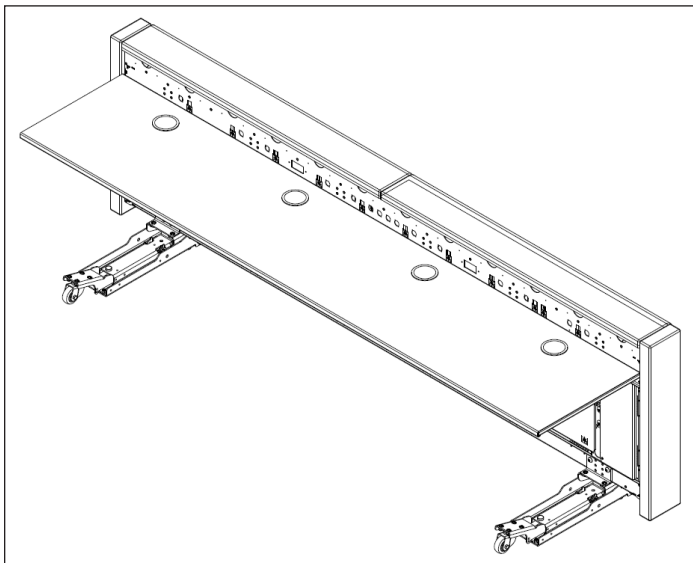

Figure 24: Tabletop Locked in Position
9. Lift up the tabletop until the latches underneath spring into position. **Figure 24** shows tabletop locked in position.